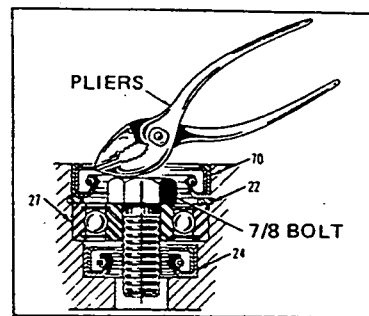

FIGURE 6
- b. Remove the grip spring locknut (10) from the upper end of the drive shaft. Use one of the following methods to hold the drive shaft from turning.
1. XJ 30 thru 117 — Insert an Allen wrench (43) in the chuck screw.
- e. Remove the internal gear (30), the two grip spring sets (39), and the grip spring spacer (37).
- f. Remove the drive shaft, with the bearing inner ring (29) in place, through the lower opening of the housing.
- h. XJ 174 thru 350 only — Pry the oil seal (70) from the housing bore as shown in Figure 6.
1. Insert a 7/8 bolt into the ball bearing (27) bore.
2. Use the bolt head as a fulcrum and pry out the oil seal (70) with pliers.